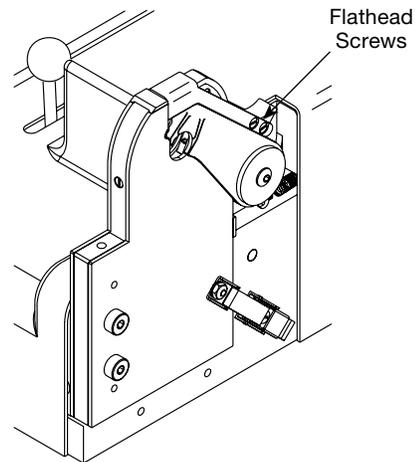

Figure 62 Replacing the Arc Shield
1. Remove the four flathead screws securing the arc shield to the movable clamp. See Figure 62.